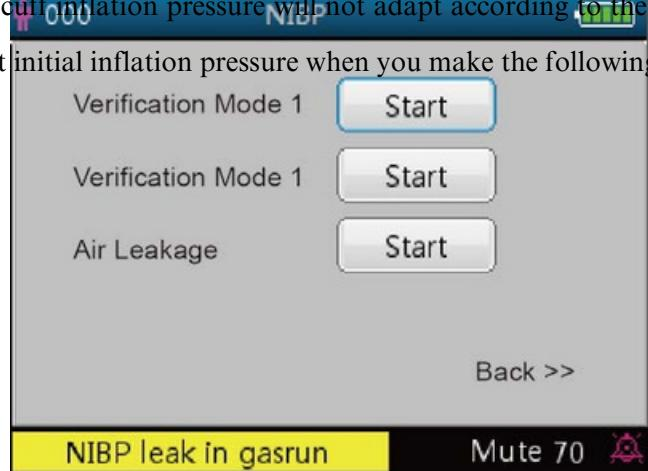

Figure 4.14 NIBP verification setup screen
- "Lock": select "√" means that the cuff inflation pressure is locked at the initial setting value. After "More >>": page down icon. Move the cursor to the last item ("Lock"), then short press the Down key to enter into NIBP verification setup screen, as shown in figure 4.14.